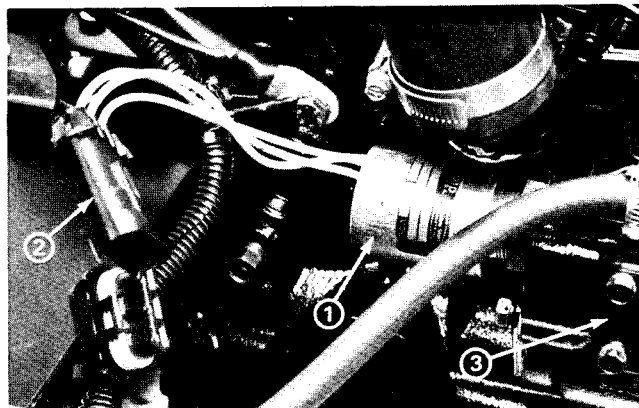

Figure 16
1. Disconnect the wire connector and remove the fuel stop solenoid from the engine (Fig. 16).